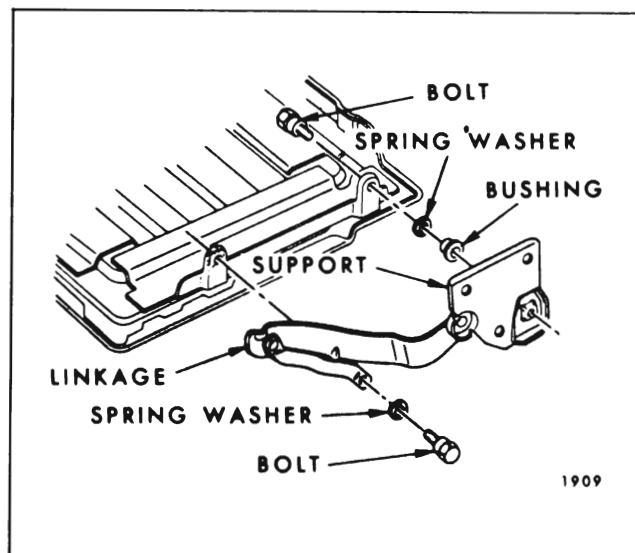

Fig. 15-55—Third Seat Back Panel and Linkage
2. At both sides of third seat back panel remove seat back linkage bolt (Fig. 15-55) and bolt securing seat back panel to support (Fig. 15-55); then remove seat back panel assembly from body.